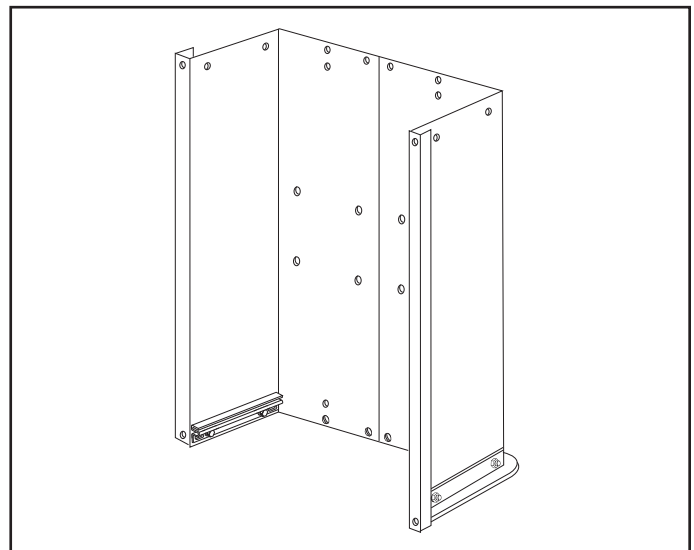

FIGURE 4
8. Carefully reverse the position of the cart so that it rests on the end with the just assembled tailgate reinforcement bracket, as shown in figure 4. Proceed with the assembly steps which follow.